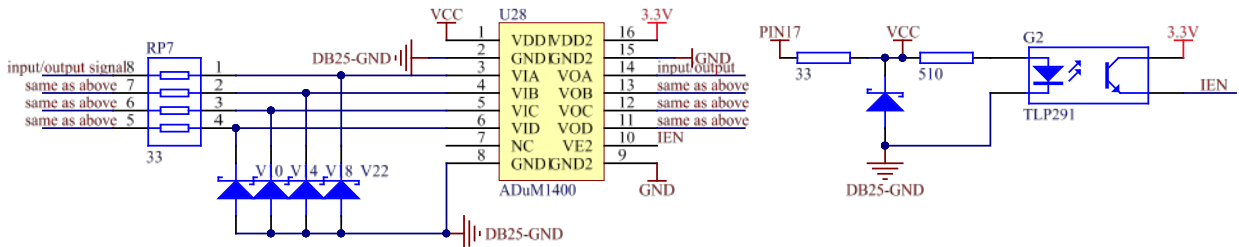

Figure 8. Schematic of input and output signals.
8) I/O connection of digital signal: the supply current of input signals are less than 10mA, and the supply current of output signals are less than 3 mA. The connection circuit of input and output signals is shown in Fig. 8.